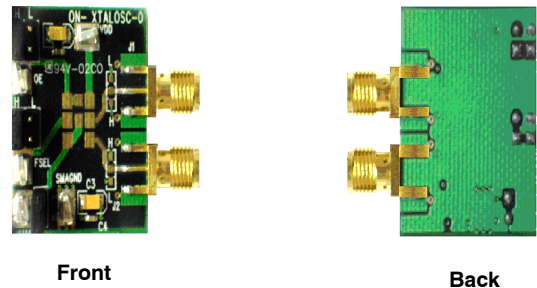

Figure 1. Evaluation Board Images (Front and Back)
8. HOLE DIAMETER TOLERANCE IS ± 0.002 ", MAXIMUM LAYER TO LAYER MISREGISTRATION SHALL BE 0.004", MEASUREMENT METHOD MUST COMPLY WITH MIL-P-55110D, FIGURE 1.